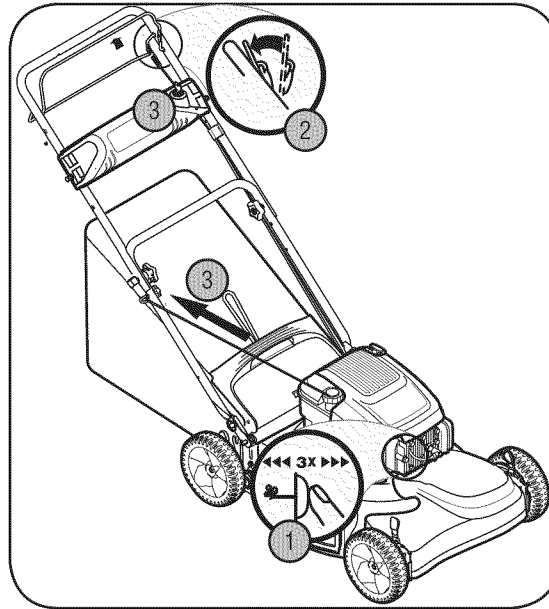

Figure 4-2
1. Push primer (if equipped) three times. Wait about two seconds between each push. See Figure 4-2. In temperature around 55° F or below, prime five times. Do not prime to restart a warm engine.
2. Standing behind the mower, squeeze the blade control against upper handle. See Figure 4-2.